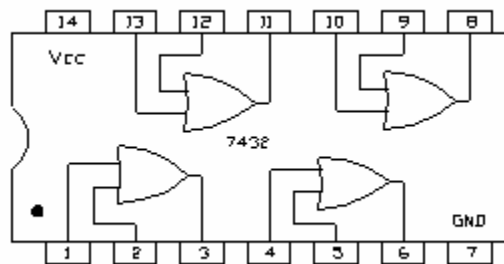

Figure 4: 7432 Pin configurations
- 4- Insert the 7432 IC into the bread-boarding socket, connect pin 14 to +5V and pin 7 to GND. Figure 4 shows the pin configuration for this IC.